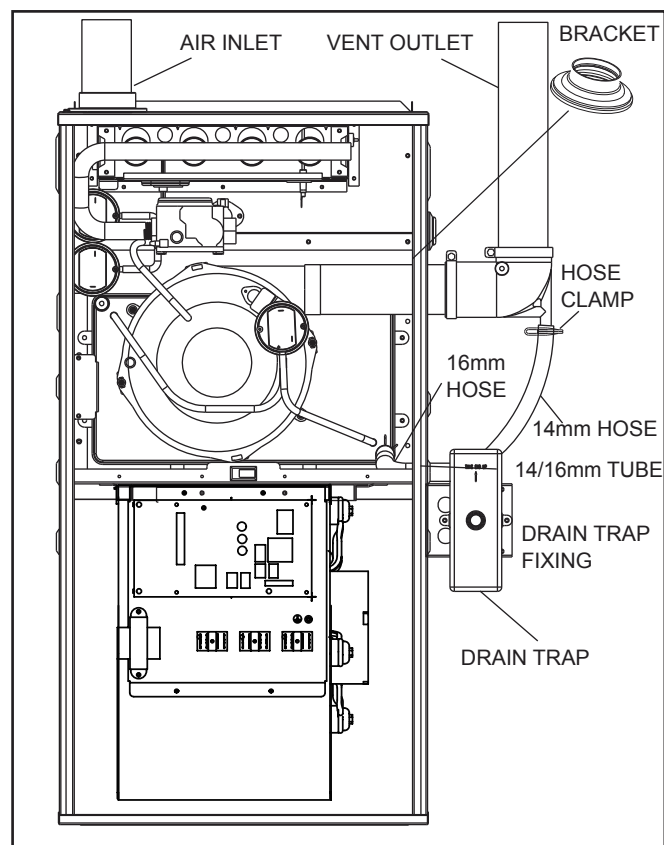

Fig. 12 - Upflow Installation, Right Side Venting
2. Right side venting (see Fig. 12)